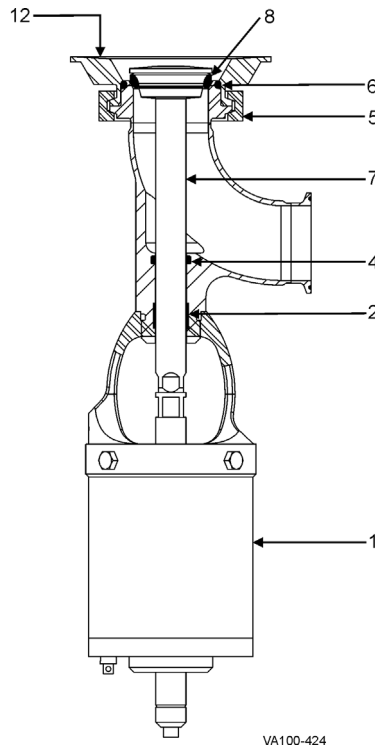

Figure 22: W64ET Tank Outlet Valve
3. Remove the body/tank flange clamp (Figure 22, item 5) and remove the valve from the tank flange.
4. Using 5/8-inch wrench flats on the stem, unscrew and remove the valve stem (item 7).
5. Replace the seat ring (item 8) as needed. See "Seat Replacement" on page 37.
6. Remove the lower body o-ring (item 6); replace as needed.
8. Remove the stem o-ring (item 4); replace as needed.
9. Inspect and replace the PTFE bearing (item 2) as needed.
5. Using 5/8-inch wrench flats on the stem, unscrew and remove the valve stem (item 7).